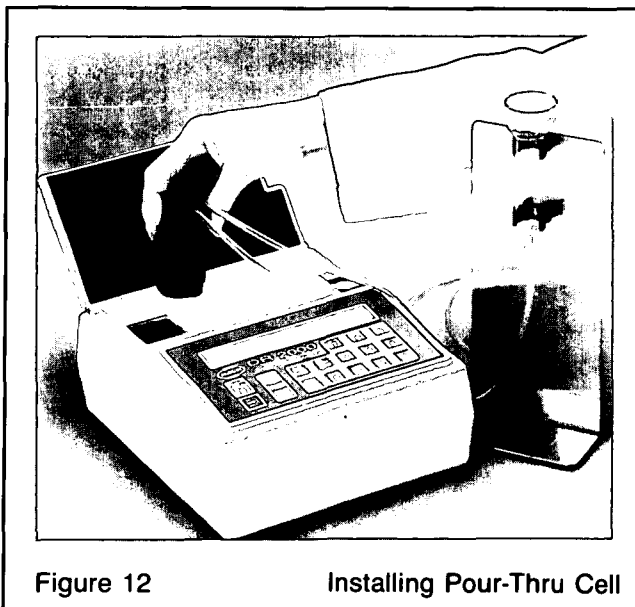

Figure 12
2. Insert the Pour-Thru Cell into the instrument cell holder with the windows aligned with the windows in the cell holder. See Figure 12. Be sure the Pour-Thru Cell is fully inserted to prevent any light leak around the gasket. The cell compartment cover can remain open when using this accessory.